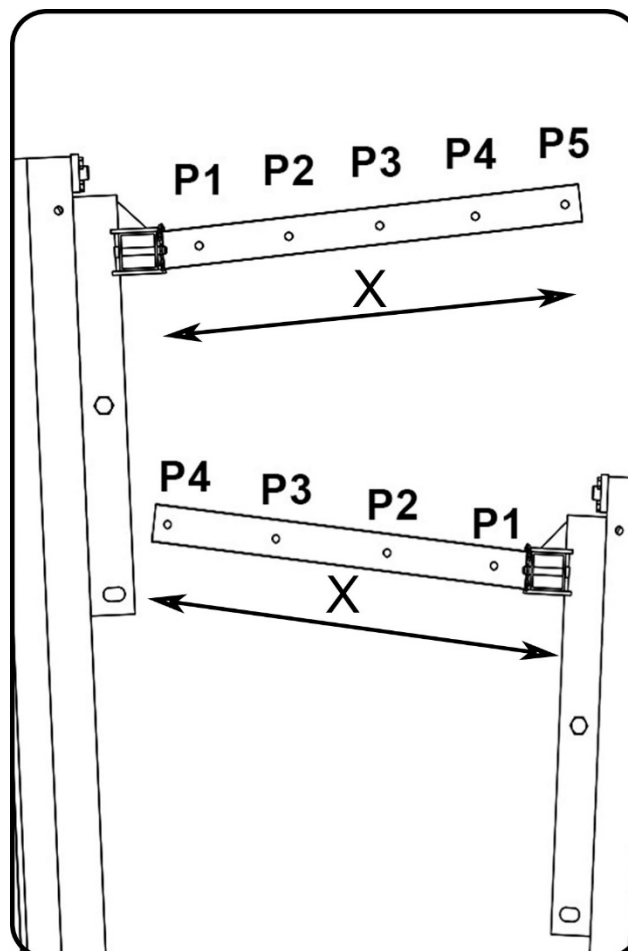

Figure 100
**If it is not calculated in each specific case of use, it is possible to take as base the data contained in the load chart (figure 100) operating the tower as mechanism for security purposes.**